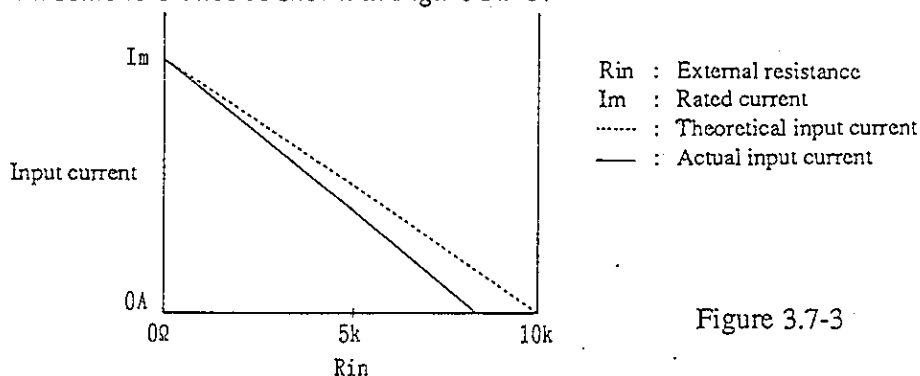

Figure 3.7-3
- The control circuit of the Electronic Load is designed so that the current (I_o) becomes absolutely zero amperes when the external resistance (R_{in}) is 10kΩ--this resistance with some tolerance as shown in Figure 3.7-3.